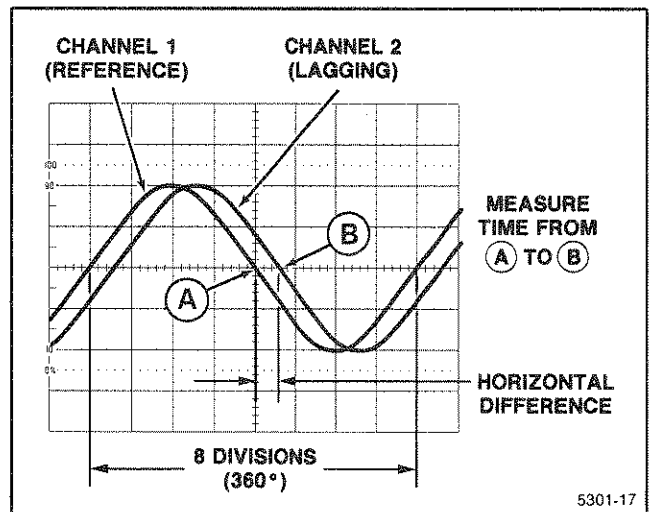
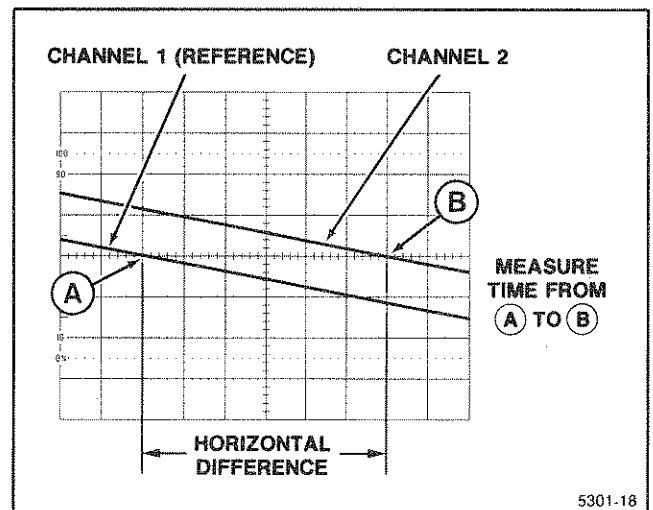

Figure 6-8. Phase difference.
Figure 6-9. High-resolution phase difference.
9. Position the displays and adjust the SEC/DIV VAR control so that one reference-signal cycle occupies exactly 8 horizontal graticule divisions at the 50% rise-time points (see Figure 6-8). Each division of the graticule now represents 45° of the cycle (360°/8 div), and the horizontal graticule calibration can be stated as 45° per division.
EXAMPLE: The horizontal difference is 0.6 division with a graticule calibration of 45° per division as shown in Figure 6-8.
Figure 6-9 shows the same signals illustrated in Figure 6-8, but magnifying the displays results in a horizontal difference of 6 divisions between the two signals.